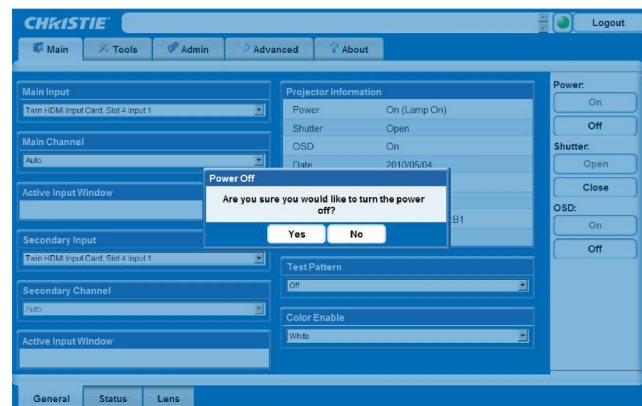

FIGURE 2-11 POWERING DOWN/WEB USER INTERFACE
1. From the **Main** Tab, Select **Power>OFF**. **NOTE:** A window will display for confirmation on powering down, see Figure 2-11.